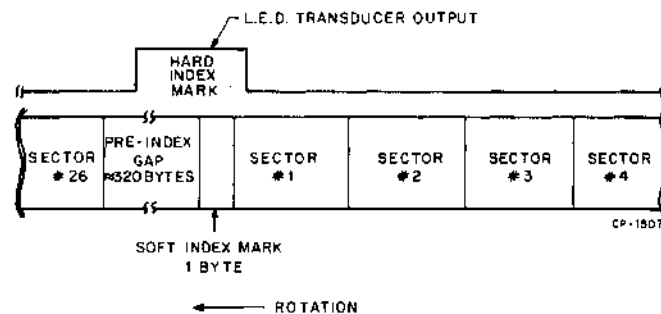
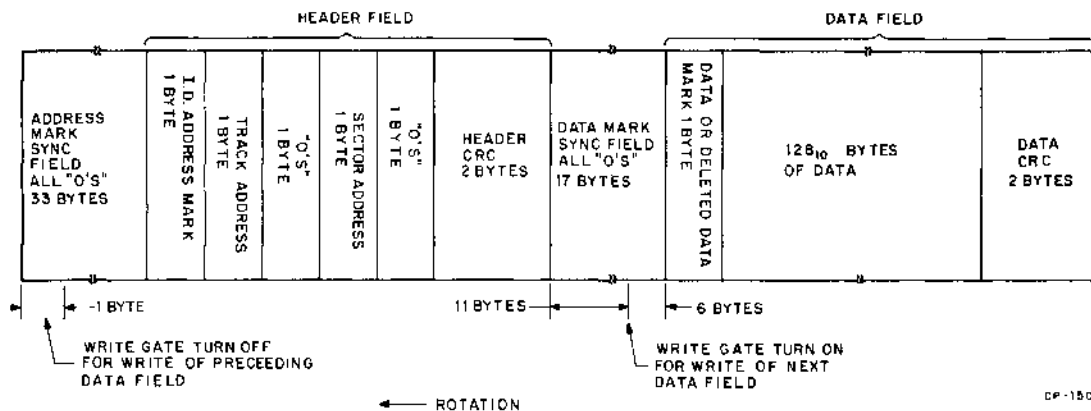

Figure 1-10 Track Format (Each Track)
Figure 1-11 Sector Format (Each Sector)
Data is recorded on only one side of the diskette. This surface is divided into 77 concentric circles or "tracks" numbered 0–76. Each track is divided into 26 sectors numbered 1–26 (Figure 1-10). Each sector contains two major fields: the header field and the data field (Figure 1-11).
1.3.3.2 Data Field Description – The data field is broken into 131 bytes of information and is preceded by a field of zeros for synchronization and the header field (Figure 1-11).